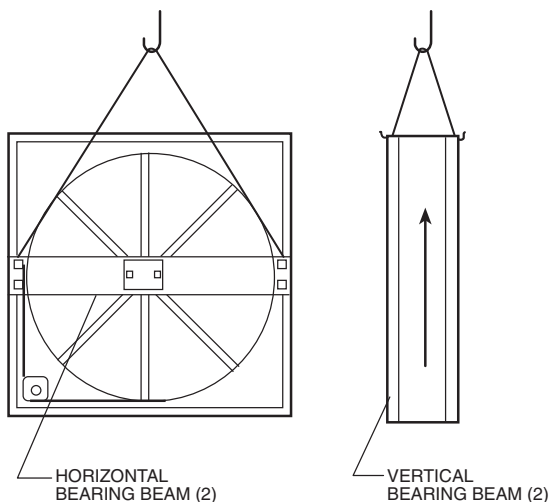

Fig. 191 — Lifting Hole Locations
2. Handle ERV cassettes with care. Lift by the bearing support beam. Holes are provided on both sides of the bearing support beams to facilitate rigging (Fig. 191).